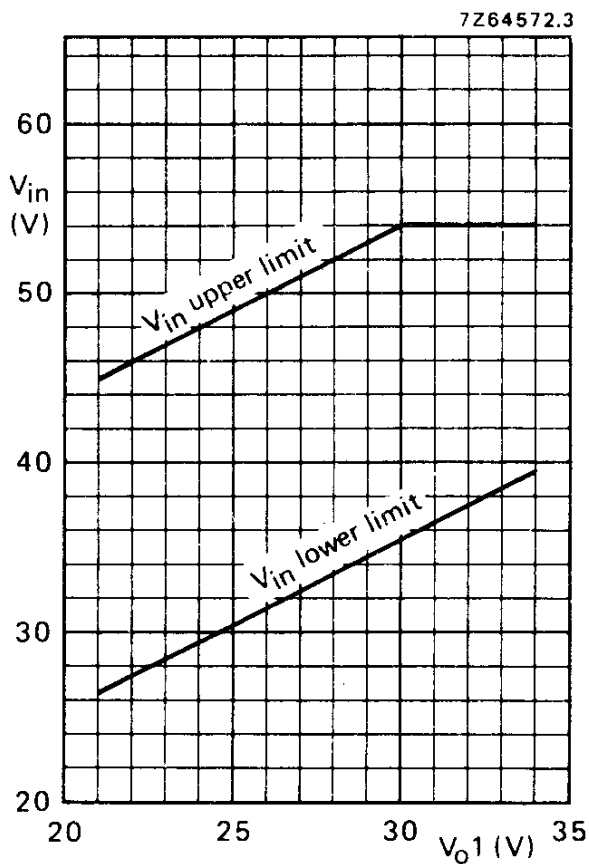

Fig. 4 Range of values for V_{01} .
1. The V_{in} range depends on the value of V_{O1} (see Fig. 4).